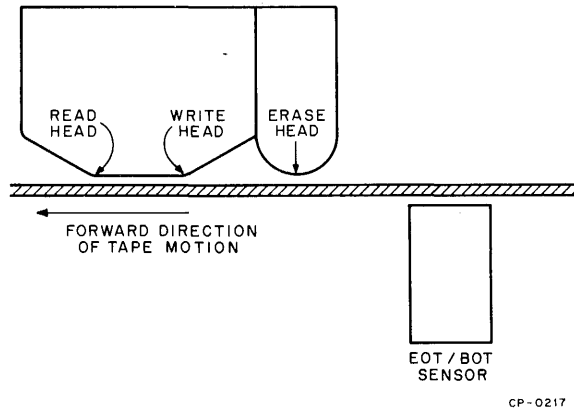

Figure 4-7 Head and EOT/BOT Sensor Positions
4.1.3.6 Forward BOT Delay – As shown in Figure 4-7, the EOT/BOT sensor is located some distance ahead of the read/write head on the tape path. Thus, when the tape is stopped with the BOT marker at the EOT/BOT sensor, the BOT marker is still some distance before the read and write heads. Because the industry-standard tape format requires that the first record be written at least 3 in. past the trailing edge of the BOT markers, all DEC magnetic tape controls must wait a specified length of time between initiating forward motion in the tape unit and commencing data transfers when starting an operation from BOT. This time period must be long enough to move the BOT marker past the write head and 3 in. beyond it.